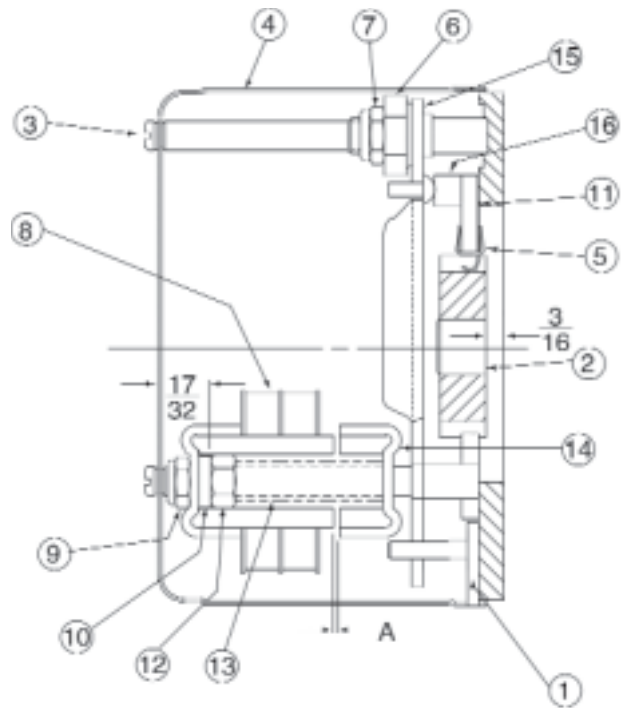

Figure 4. Brake Gap Adjustment
MANUAL RELEASE (See Figure 4)
FRICTION DISC REPLACEMENT (See Figure 4)
1. Remove the rubber sleeve (21), three cover screws (3), cover (4), nuts (9), magnet assembly (8), washers (10), nuts (12), torque springs (13), armature (14), nut (7), nut (6), pressure arm (15) and stationary disc (16).
2. Install new rotating disc (11) making sure anti-rattle spring (5) is installed in position shown and does not rest in a hub tooth space containing a set screw.
NOTE: In reassembly, tighten nut (6) so that it just makes contact with pressure arm (15). LOCATE nut (12) 1/2" from end of stud as shown in Figure 4. Tighten nut (9) as described under MAGNET ASSEMBLY REPLACEMENT. Readjust magnet air gap as described under WEAR ADJUSTMENT.
WEAR ADJUSTMENT (See Figure 4).
MAGNET ASSEMBLY REPLACEMENT (See Figure 4)